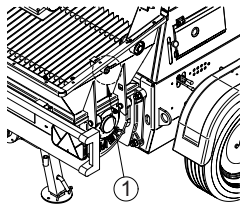

Fig. 1
Table 1 gives the technical specifications of the concrete pump, with reference to figure 1.
4.1 DESCRIPTION OF CONCRETE PUMP (see fig. 1)
- Opening the grill on the upper hopper should stop the mixer in the lower hopper, the S valve and the pumping pistons by tripping the sensor (Fig. 1 Ref. 1).